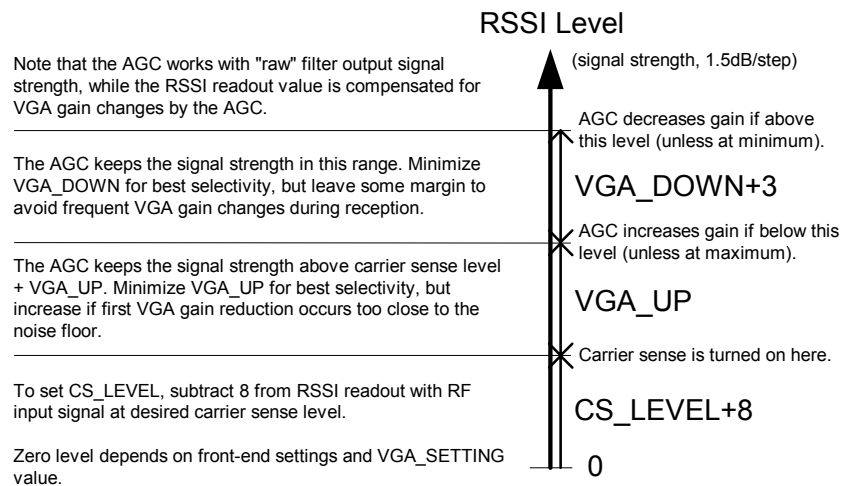

Figure 20. Relationship between RSSI, carrier sense level, and AGC settings CS\_LEVEL, VGA\_UP and VGA\_DOWN
A digital RSSI is used to measure the signal strength after the ADC. The `CS_LEVEL[4:0]` in the `VGA4` register is used to set the nominal operating point of the gain control (and also the carrier sense level). Further explanation can be found in Figure 20.
5. If desired, adjust the VGA\_UP and VGA\_DOWN settings according to the explanation in Figure 20.
*CS\_LEVEL[4:0]* sets the threshold for this specific *VGA\_SETTING[4:0]* value. If the *VGA\_SETTING[4:0]* is changed, the *CS\_LEVEL[4:0]* must be changed accordingly to maintain the same absolute carrier sense threshold. See Figure 20 for an explanation of the relationship between RSSI, AGC and carrier sense settings.